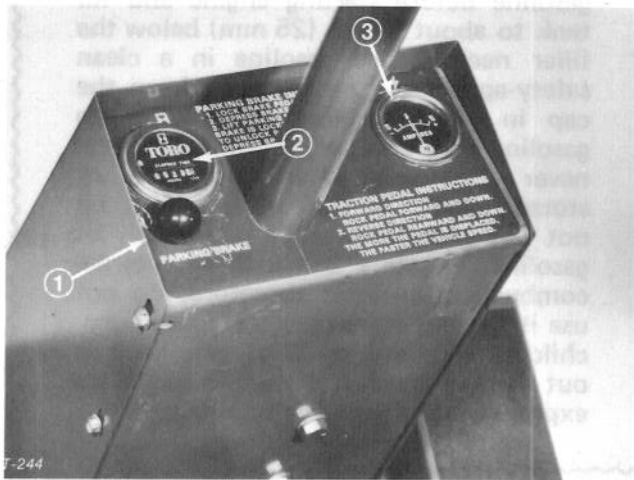
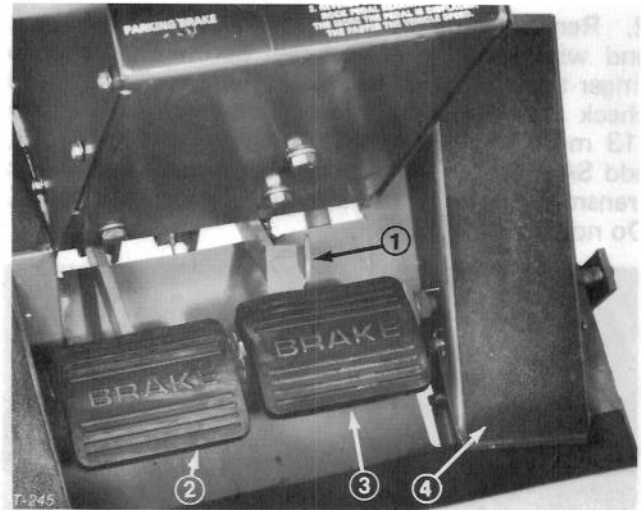

Figure 11
Figure 12
**Parking Brake** (Fig. 11) — Whenever the engine is shut off, the parking brake must be engaged to prevent accidental movement of the machine. To engage the parking brake, push lock arm (Fig. 12) on right brake pedal between the left brake and its lock tab. Next, push down fully on both pedals and pull parking brake knob out; then release the pedals. To release parking brake, depress both pedals until parking brake knob retracts. Before starting the engine, however, lock arm may be disengaged from left brake pedal so both pedals work independently with each front wheel.
**Hour Meter** (Fig. 11) — The hourmeter registers accumulated hours of engine operation. Use the hourmeter to determine intervals for service maintenance and lubrication.
**Ammeter** (Fig. 11) — Ammeter shows charge rate of the battery by the alternator. When engine is running, there must always be a slight charge, unless engine is idling slowly. Needle will point to 0 when battery is fully charged. By contrast, alternator is not charging the battery when needle points to (—) negative side of ammeter, and if this happens, repair the charging system to prevent discharge of the battery.
**Service Brakes** (Fig. 12) — The left and right brake pedals are connected to the left and right front wheels. Since both brakes work independently of each other, the brakes can be used to turn sharply or to increase traction if one wheel tends to slip while operating on certain slope conditions. However, wet grass or soft turf could be damaged when brakes are used to turn sharply. To make a "quick-stop", depress both brake pedals together.
**Traction Pedal** (Fig. 12) — Traction pedal has two functions: one is to make the machine move forward, the other is to make it move rearward. Using